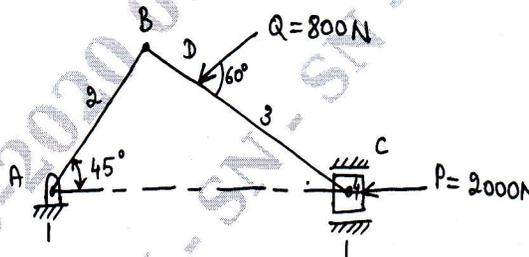

Fig Q3(a)
- 3 a. Determine various forces on the link and couple  $T_2$  shown in Fig Q3(a) below. Where  $AB = 300\text{mm}$ ,  $BC = 600\text{mm}$ ,  $BD = 200\text{mm}$ .